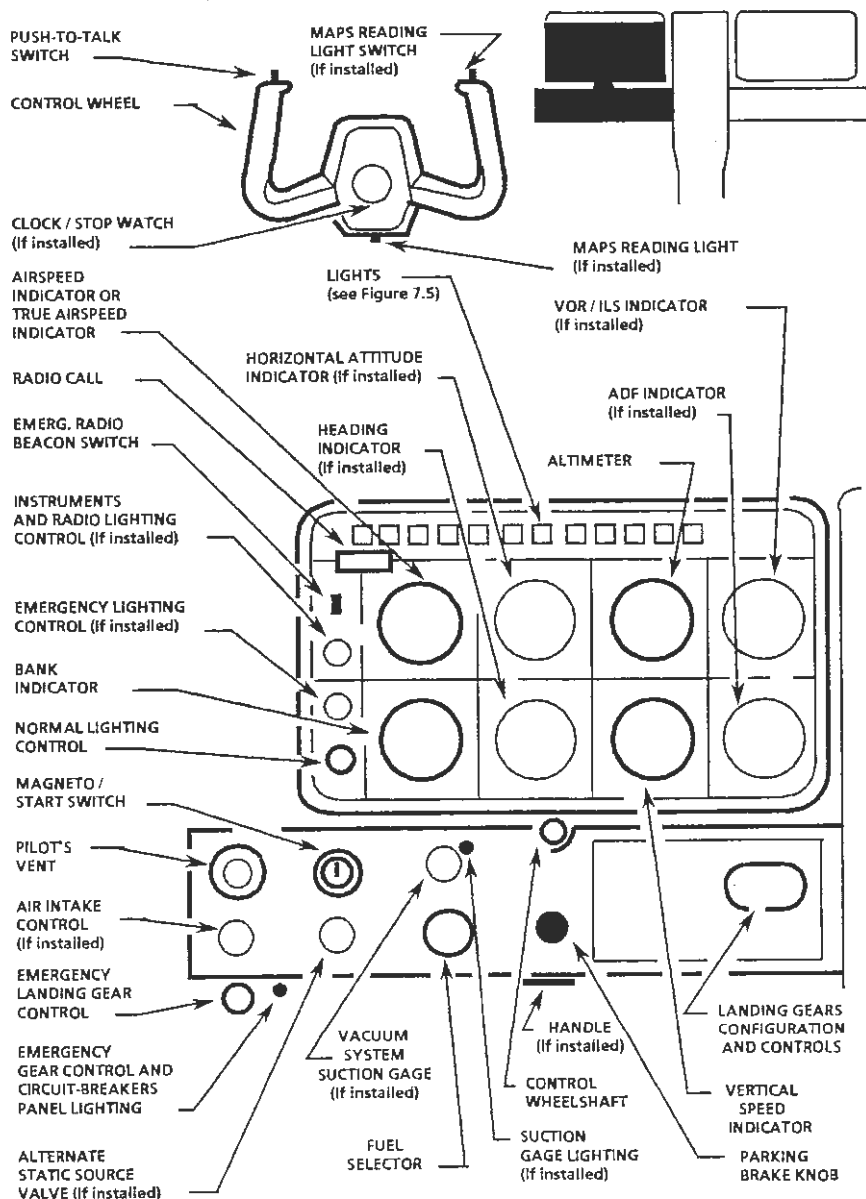

Figure 7.1 - EXAMPLE OF INSTRUMENT PANEL AND L.H. SUBPANEL
L.H. instrument panel (see Figure 7.1) is designed around the basic "T" configuration.
The L.H. panel strip (see Figure 7.1) contains from left to right : L.H. vent, magneto / start switch, fuel selector, parking brake knob, landing gears configuration and controls ; under the panel strip, on L.H. side, emergency landing gear control, on R.H. side, the "Alternate Air" (if installed) control ; alternate static source valve and vacuum system pressure gauge (if installed) complete the L.H. panel strip.